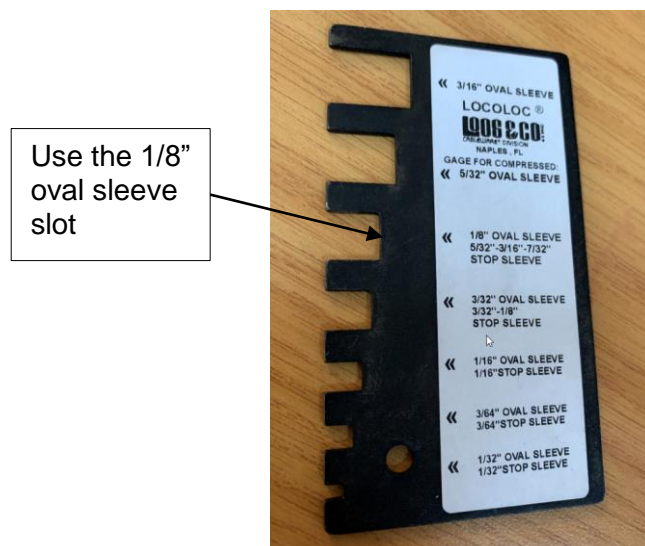

Figure 2 – 1/8" oval sleeve slot on Lococloc® go-no go sleeve gauge
2. Use the 1/8" oval sleeve slot on the Locoloc® go-no go sleeve gauge as shown in Figure 2. The crimps should pass into the slot easily.